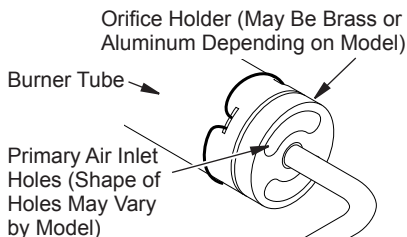

Figure 34 - Orifice Holder On Outlet Burner Tube
2. Inspect burner, pilot and primary air inlet holes on orifice holder for dust and dirt (see Figure 34).